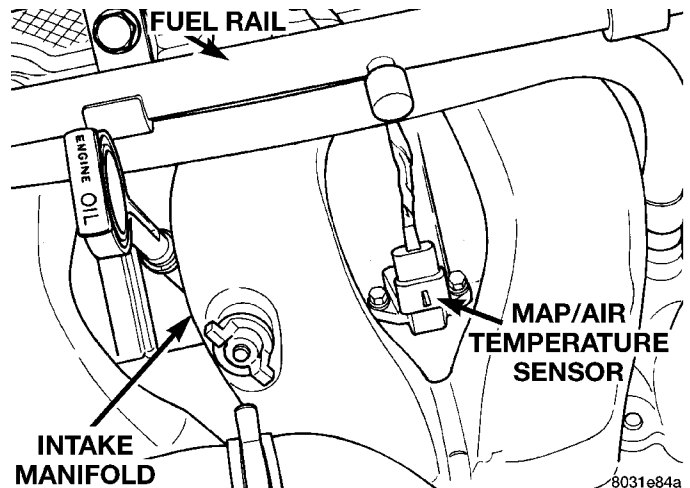

Fig. 59 MAP/Intake Air Temperature Sensor
- (7) Inspect the electrical connections at the MAP sensor/intake air temperature sensor and the (Fig. 59).